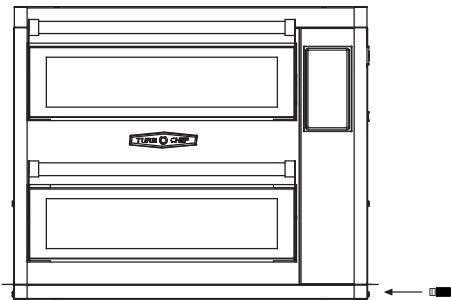

Figure 20: USB Port
1. When the oven is off or cooling down, insert the USB drive (Figure 20). The oven will automatically detect the device.